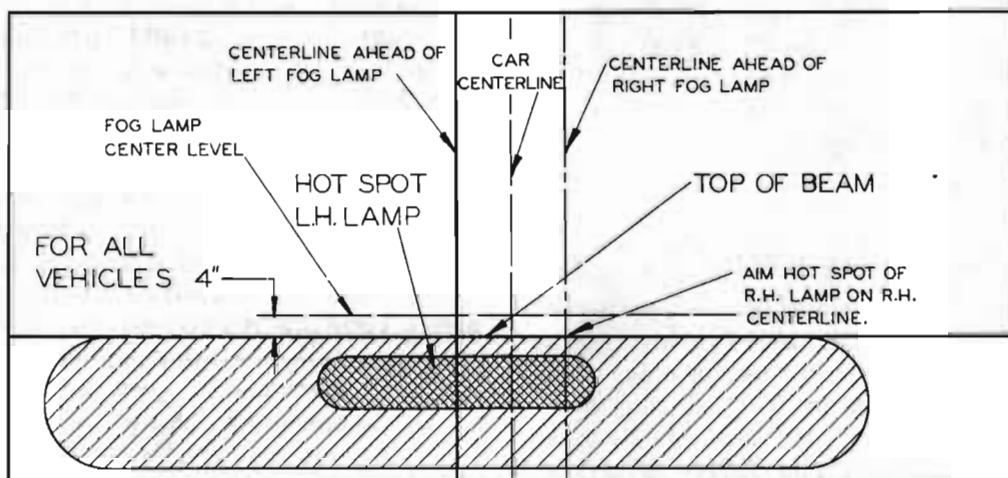

Figure 11-8—Auxiliary Lamp Aiming Chart—Left Hand Lamp Pattern Shown
1. Place car on a level stretch with a light colored surface or aiming screen twenty-five feet (25') ahead. Draw a horizontal line on this surface four inches (4") BELOW the level of the fog lamp center. See figure 11-8.